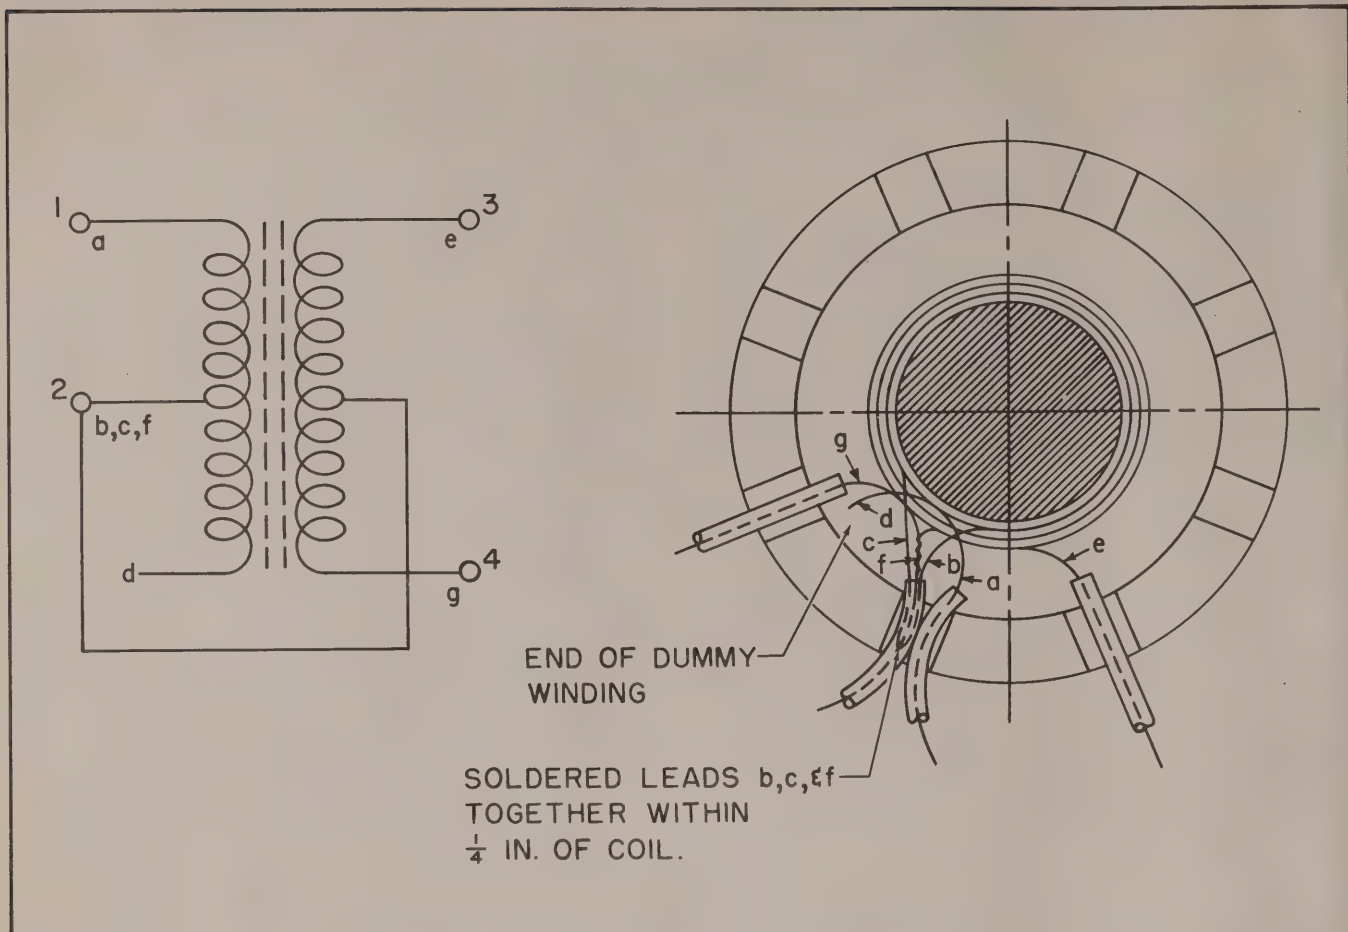

Figure 2-2. Construction of Transformer T-201
a. TRANSFORMER. (See figure 2-2.) The 70-ohm primary winding of input transformer T-201 accepts signals from an unbalanced, 70-ohm, coaxial transmission line from either an antenna or a preceding antenna coupler. The secondary of T-201 is wound for a nominal impedance of 1,000 ohms and is balanced with respect to chassis ground by means of a center tap. Output transformer T-202 is identical with T-201 but with its electrical functions reversed. A dummy winding on the primary of T-201 (the secondary of T-202) compensates for the unbalanced capacitances between the primary and secondary windings. (See Table 7-6, Winding Data.) The dummy winding is connected to ground at the center tap of the balanced winding. Balancing the distributed capacitances of the transformer in this manner prevents introduction of unbalanced signals into the secondary winding and transmission line. Reference to figure 2-2 should clarify the construction and theory of operation of transformer T-201. Shielding of the transformer is